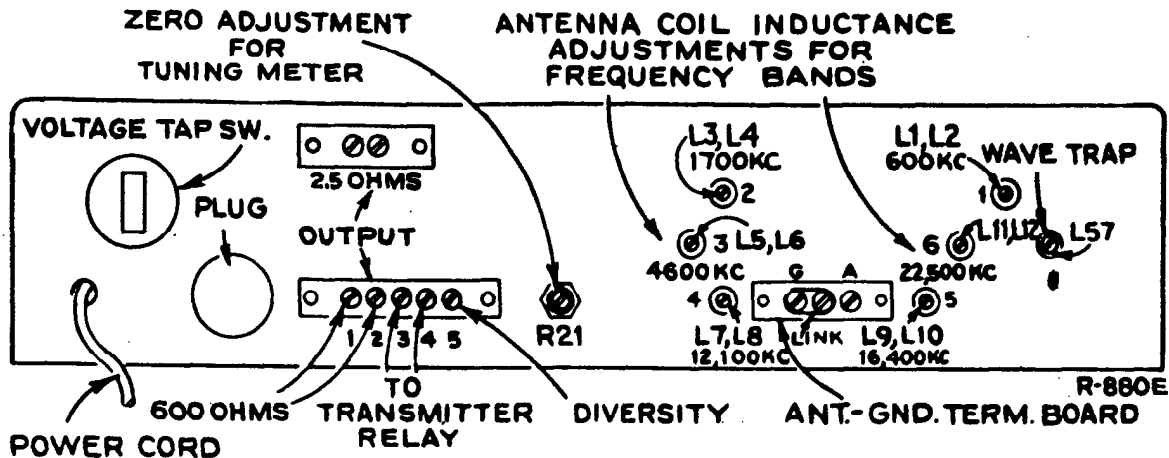

Figure 3—Diagram of Rear of Chassis
The antenna terminal board is provided with three terminals (see Figures 3 and 6), two of which may be joined together with a link. When a single wire antenna is used, the link should be closed and the antenna connected to "A." If a ground is used, it should be connected to "G." If a transmission line or balanced input is used, the link should be opened and the line connected to terminal "A" and the center terminal.
Power Pack — The power pack mounted on the receiver chassis consists of a power transformer, rectifier tube RCA-5Y3GT, and filter. A tap switch is provided on the rear apron for changing the power transformer voltage tap. (See Figures 3 and 6.) The voltage for which the switch is set may be read directly on the switch. The instrument may also be operated from 6V. "A" and 250 to 300 V. "B" batteries, or Vibrator Power Supply Unit MI-8319.
Speaker — Terminals for connection of a loud-speaker are indicated in Figures 3 and 6. The output transformer is designed to match a speaker having 2.25 ohms impedance.
2. Transmit position which gives energized tube filaments, open plate circuits, and shorted terminals for transmitter relay on the speaker terminal board on the back of the chassis. Connect relay to these two terminals for transmitter operation. See Figure 3.
Diversity Reception — Connect together the terminals marked "diversity," Figure 3, on two or three of these receivers, and equip each receiver with a separate antenna. The "diversity" terminal is connected inside the receiver to the AVC circuits. Tune as explained.
detector. It controls the first and second R-F and first and second I-F tubes. The tuning meter is connected in the cathode circuit of the 1st I-F tube and thus records changes in cathode current caused by changes of AVC voltage applied to the grid. The tuning meter should normally give a low scale reading when no signal is being received. To adjust this meter, tune the receiver to a point free of signals, turn the sensitivity control to maximum, switch in AVC, switch crystal "Out," have antenna trimmer turned off resonance, and then adjust the potentiometer R21 at the back of the receiver, as shown in Figure 3, until the meter pointer just coincides with the mark at the low end of the scale. The meter will usually rise slightly when the antenna trimmer is tuned to resonance.